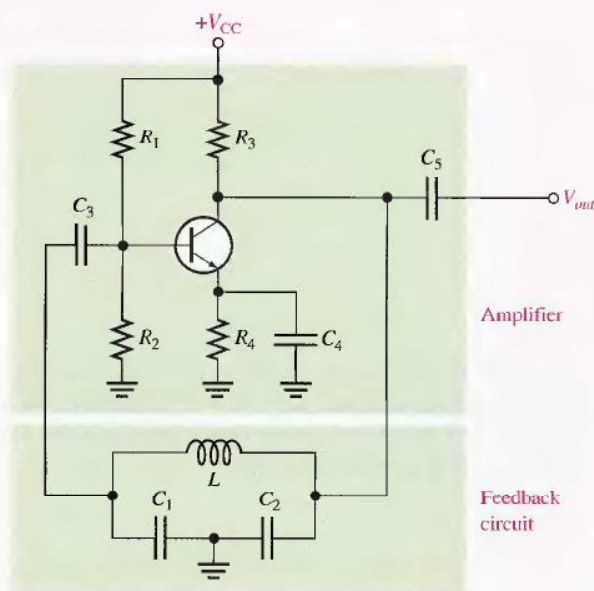

FIGURE 16–16
One basic type of resonant circuit feedback oscillator is the Colpitts, named after its inventor—as are most of the others we cover here. As shown in Figure 16–16, this type of oscillator uses an LC circuit in the feedback loop to provide the necessary phase shift and to act as a resonant filter that passes only the desired frequency of oscillation.
Figure 16–17 shows that the circulating tank current is through both C_1 and C_2 (they are effectively in series). The voltage developed across C_2 is the oscillator's output voltage (V_{out}) and the voltage developed across C_1 is the feedback voltage (V_f), as indicated. The expression for the attenuation (B) is
A FET can be used in place of a BJT, as shown in Figure 16–19, to minimize the loading effect of the transistor's input impedance. Recall that FETs have much higher input impedances than do bipolar junction transistors. Also, when an external load is connected to the oscillator output, as shown in Figure 16–20(a), f_r may decrease, again because of a reduction in Q . This happens if the load resistance is too small. In some cases, one way to eliminate the effects of a load resistance is by transformer coupling, as indicated in Figure 16–20(b).
◀ **FIGURE 16–19**
◀ **FIGURE 16–20**
- Determine the frequency for the oscillator in Figure 16–21. Assume there is negligible loading on the feedback circuit and that its Q is greater than 10.